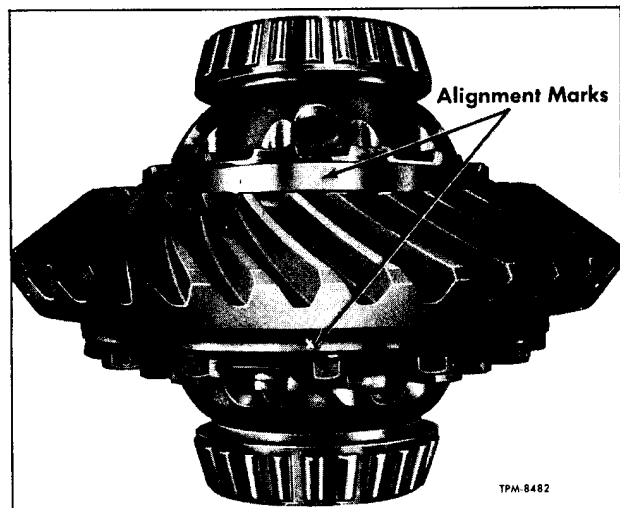

Figure 4—Differential Case Alignment Marks
1. Mark both halves of differential case (2) so halves may be reassembled in original positions (fig. 4).